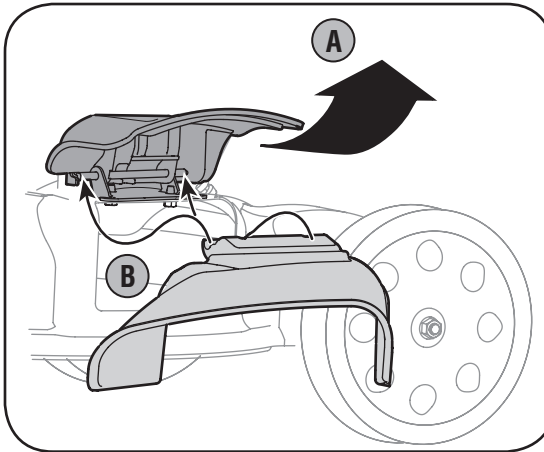

Figure 3-6: Installing the side discharge chute.
- b. Slide two hooks on side discharge chute under hinge pin on mulching plug assembly. See Figure 3-6. Lower the mulching plug. Do not remove side mulching plug at any time even when you are not mulching.